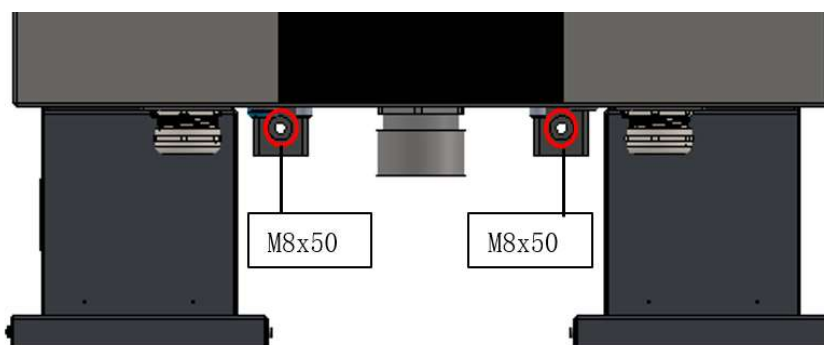

Figure 11 Wall-mounted fixing diagram 2
(4) Fix the lower part of the charger main body with M8 × 50 screws on the two mounting holes already opened on the wall, as shown in Figure 11.